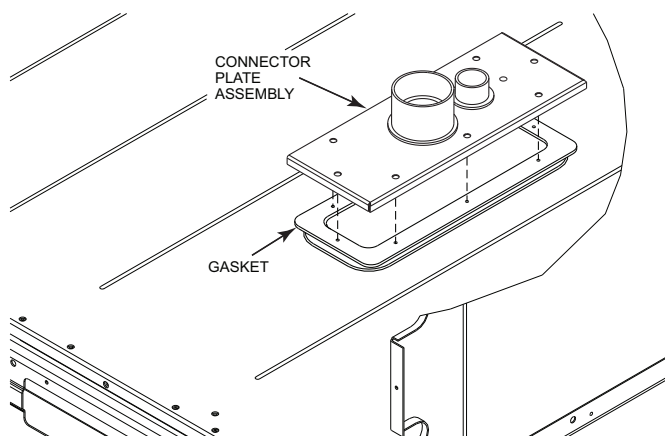

Fig. 45 — Completing Installation of Thru-the-Base Option
3. Place the gasket over the embossed area in the basepan, aligning the holes in the gasket to the holes in the basepan. See Fig. 45.